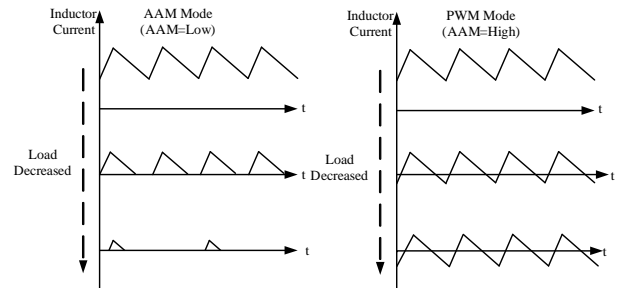

Figure 2: AAM and PWM
Under normal load conditions, the controller operates in full PWM mode (see Figure 2). At the beginning of each oscillator cycle, the top gate driver is enabled. The top gate turns on for a period determined by the duty cycle. When the top gate turns off, the bottom gate turns on after a dead time and remains on until the next clock cycle begins.
The MP2908A employs AAM functionality to optimize efficiency during light-load or no-load conditions (see Figure 2). It is enabled when CCM/AAM is at a low level by connecting an appropriate resistor to GND to ensure that  $V_{AAM}$  is no less than 480mV. See Equation (1):